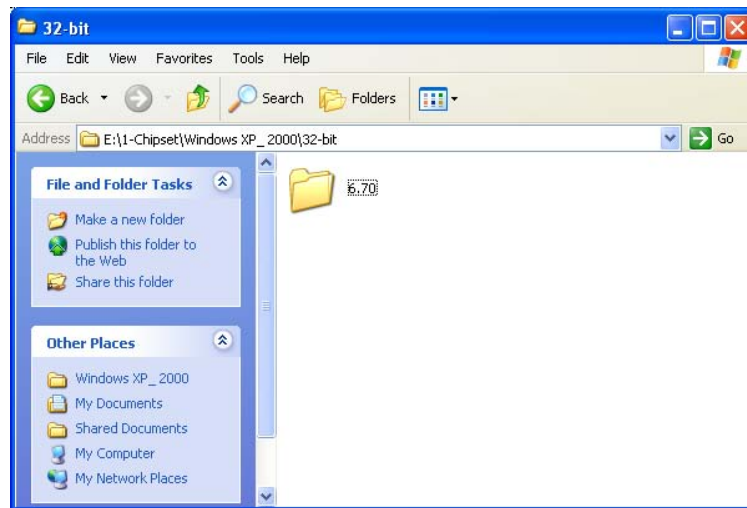

Figure 8-5: Chipset Driver Revision Directory Icon
Step 5: Select the operating system type. The screen in **Figure 8-5** appears.
Step 6: Double click the directory icon in **Figure 8-5**.